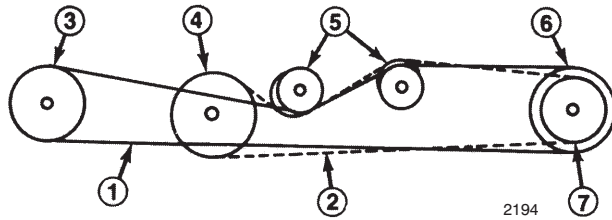

Figure 26
To replace the traction or jackshaft belt, use the following procedures and belt routing diagram (Fig. 26).
5. Install the belts. Route the traction belt over the transmission as shown (Fig. 26).